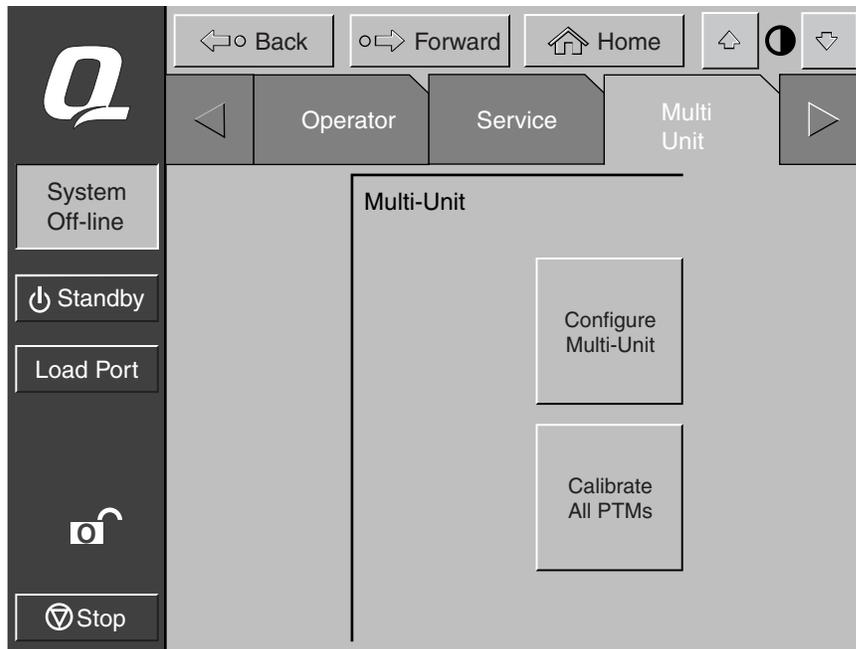

Figure 3-3. Multi-Unit screen
2. Select the Multi-Unit (MUSL) tab (see Figure 3-3).